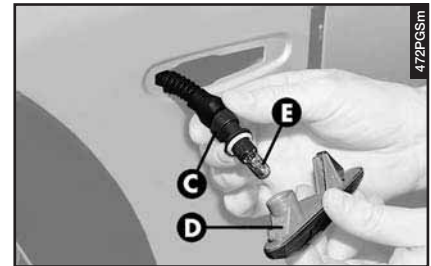

fig. 55
– Turn the bulb holder (**C-fig. 55**) counter-clockwise and remove it from the transparent cover (**D**).